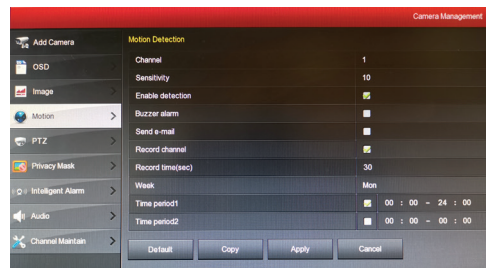

Fig.15
- in the open window, select the "Motion" tab (Fig. 15),